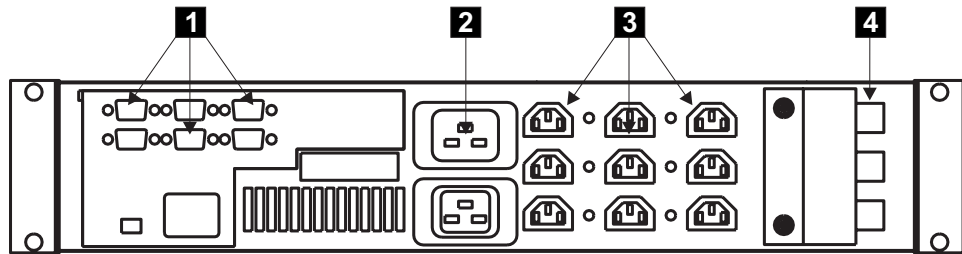

Figure 60. Uninterruptible power supply 5125 (rear view)
4. Disconnect the main power cable **2**. See Figure 60 on page 191.